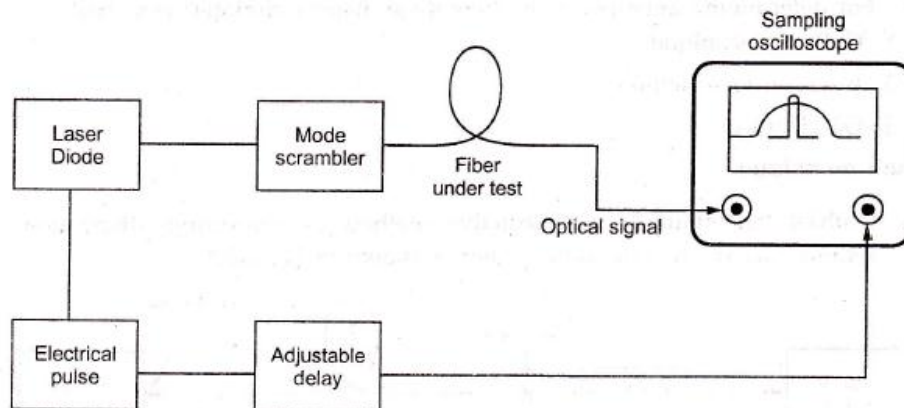

Fig. 8.7.2 Test setup for making pulse dispersion measurements in time domain
- Time-domain intermodal dispersion measurement involves injecting a narrow pulse of optical energy into one end of an optical fiber and detect the broadened output-pulse at the other end. This set up for this measurement is shown in the Fig. 8.7.2